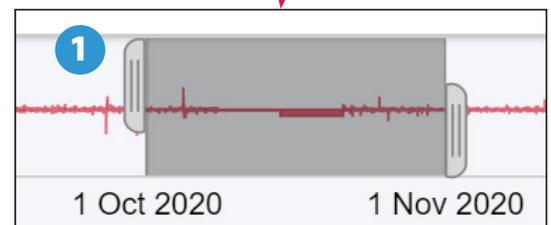

Figure 14a
- 1 Adjust the range to where you want to see the area of interest using the tab or by moving the slider (see figure 14a).